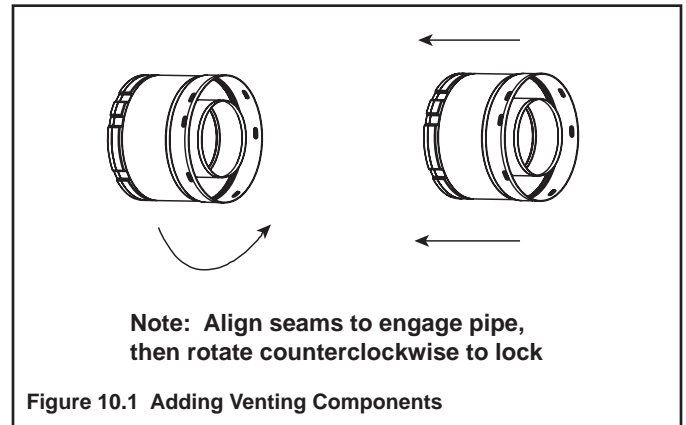

Figure 10.2 High Temperature Silicone Sealant
- Apply a bead of silicone sealant inside the female outer pipe joint prior to joining sections. See Figure 10.2.